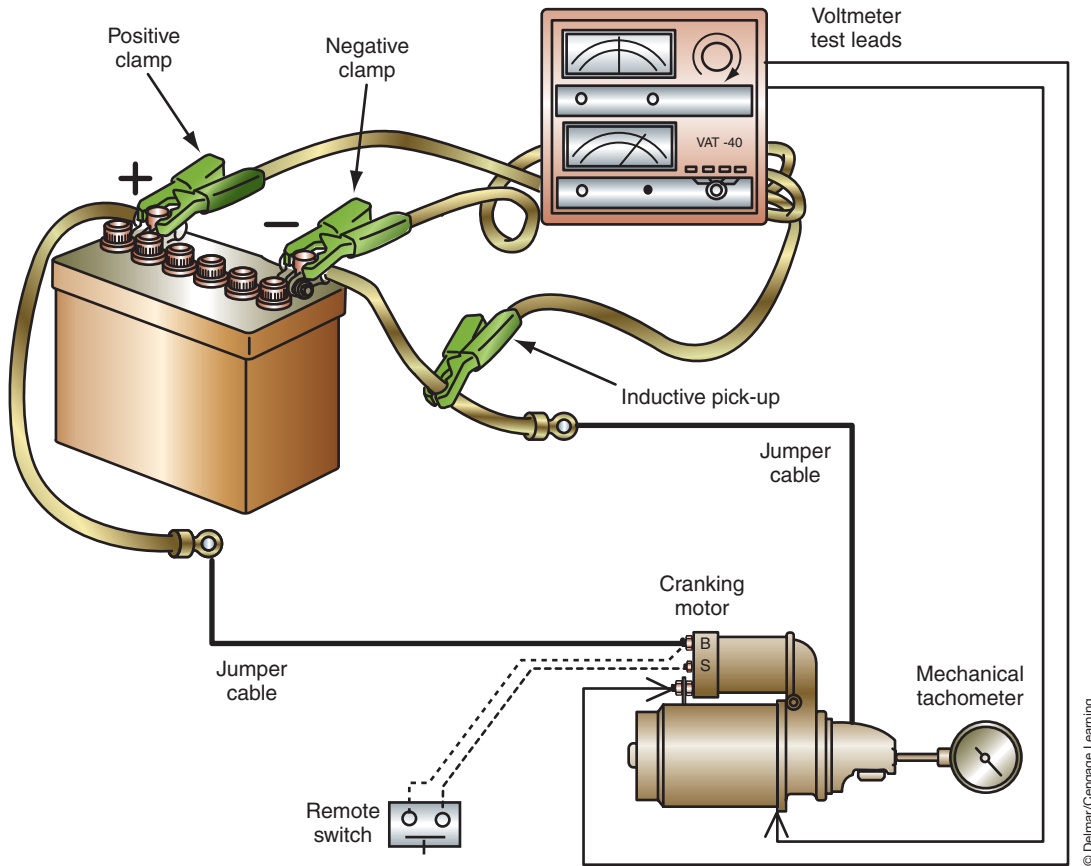

FIGURE 6-16 Starting/charging system tester connections for a free speed test.
In the event that the starter has failed the previous tests, or a new starter is going to be installed, a **free speed test** should be performed. The free speed test determines the free rotational speed of the armature. Some manufacturers recommend this test procedure over the current draw test. The starter must be removed from the vehicle, as described in the next section. With the starter removed from the vehicle, perform the test as follows (Figure 6-16):
4. Connect the jumper cables, as shown in Figure 6-16.